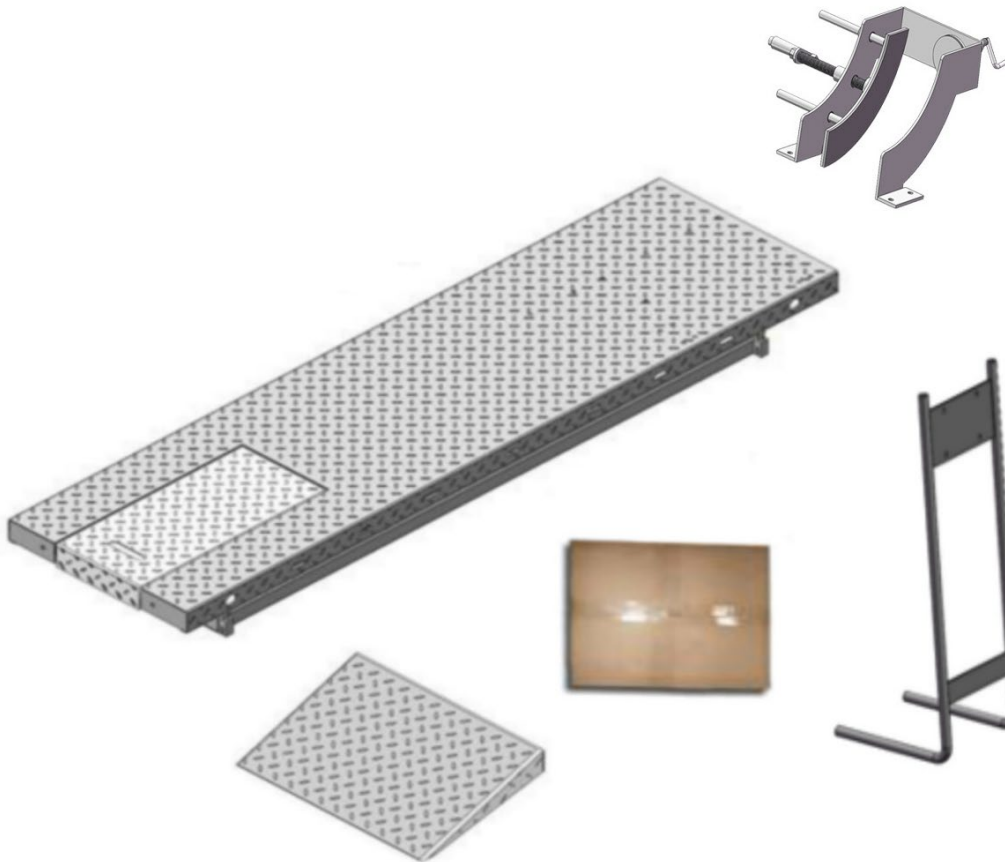

Fig.3
1. Packaged cargo (lift, drive-in ramp, parts box, power unit stand, wheel vise). Move the parts aside, open the outer packing and check the parts according to the shipment parts list. **see Fig.3**